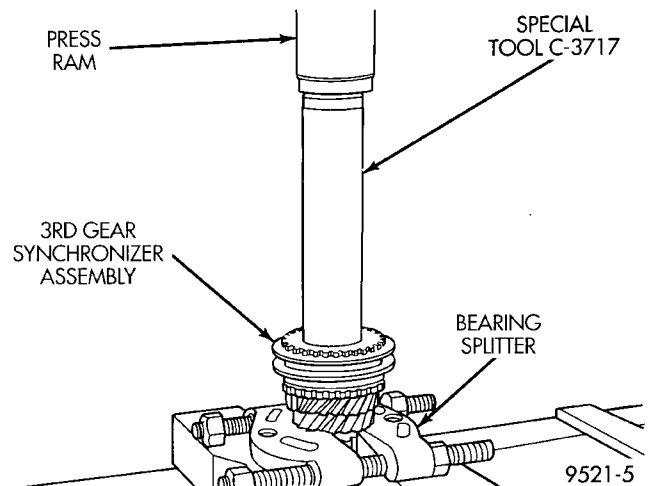

Fig. 90 Press On 3rd Gear Synchronizer Hub
(1) Place input shaft into shop press.
(2) Install 3rd gear caged needle bearing on input shaft.
(3) Install 3rd gear and 3-4 synchronizer onto input shaft. Install Tool #C-3717 over input shaft and press on synchronizer hub and 3rd gear (Fig. 90). The synchronizer hub has the letter **U** stamped on the top face of the hub. This designates that the hub must be installed with the **U** facing upward.